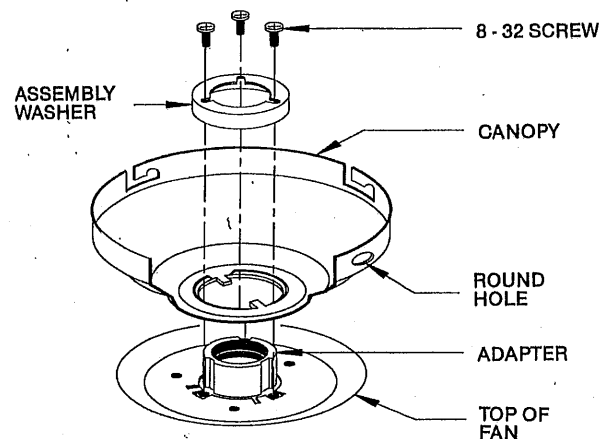

Figure 5. Low Profile Version
A. Place the canopy on top of the fan so the hole in the bottom of the canopy fits over the adaptor on the top of the fan. See Figure 5. Place the canopy assembly washer inside the canopy with the vertical flange of the washer resting on the inside of the canopy.
B. Position the (3) slots in the canopy assembly washer over the (3) threaded holes in the adapter. See Figure 5.
C. Secure the canopy to the top of the fan using the (3) #8-32 X 3/4" long screws with lock washers. Make certain all screws are tight. Failure to do so could result in the fan falling. See Figure 5.
D. Being careful not to scratch the canopy finish, hang the fan from the hook in the ceiling plate using the round hole in the top of the canopy. See Figure 5 and 5A.